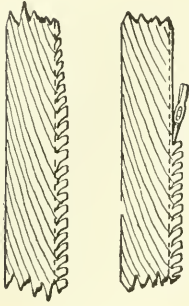

Fig. 158
49. The Hatchet is not easy to control, so keep the fingers out of the way and watch the direction of the grain of the wood. To remove waste wood it is often best to make cuts nearly to the line and then trim to the line (Fig. 158). With crooked grain this lessens the danger of splitting the part you wish to keep. (See also page 33.)